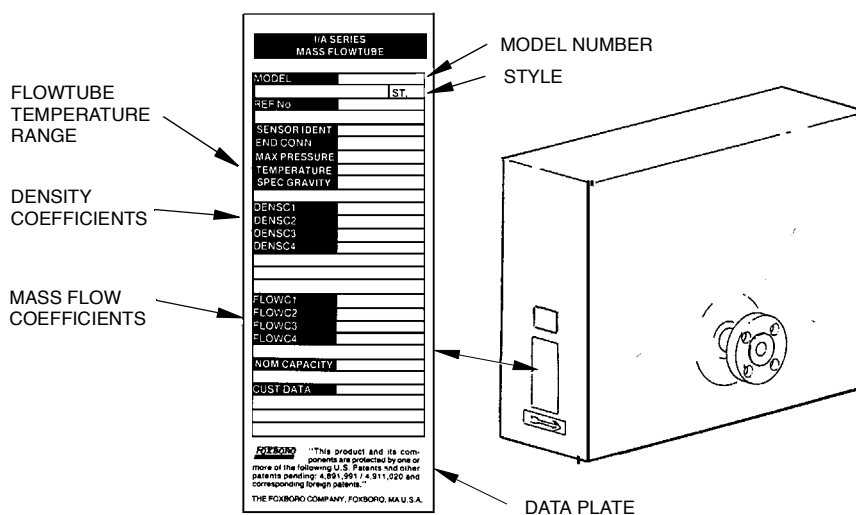

Figure 1. Data Plate Location and Flowtube Identification
*NOTE: Before installing flowtube, copy the following information from the flowtube data plate (see Figure 1): Model Number, Sens. ID, Dens C1, Dens C2, Dens C3, Dens C4, Dens C5 (if provided), Dens C6 (if provided), Flow C1, Flow C2, Flow C3, Flow C4, Nom Cap, TP COR S (if provided), and TP COR O (if provided). This information will be required when programming the transmitter.*